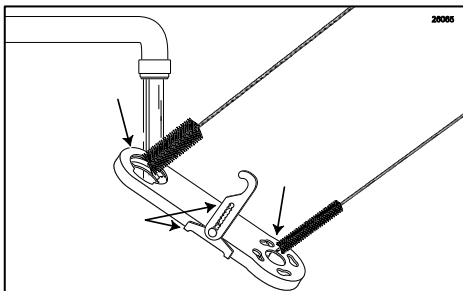

Figure 33
5. When the Drive Assembly Gear Box has soaked for at least 5 minutes, brush and clean all exposed surfaces and openings with detergent water and rinse thoroughly. The Suspension Bracket may be disassembled for a more thorough cleaning if necessary. (See Figure 33.)